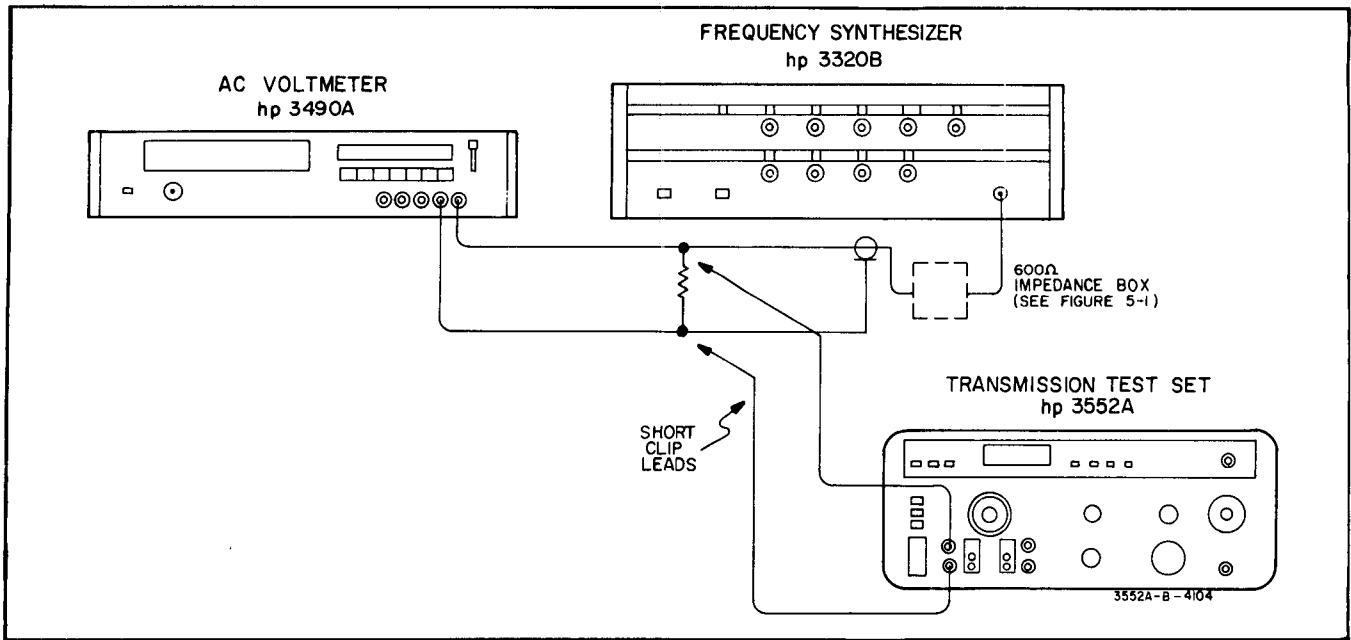

Figure 5-13. Transmitter Impedance Adjustment Setup.
b. Connect the equipment as shown in Figure 5-13 using a precision ( $\pm 0.1\%$ ) 150 ohm resistor. Do not connect the Test Set at this time.